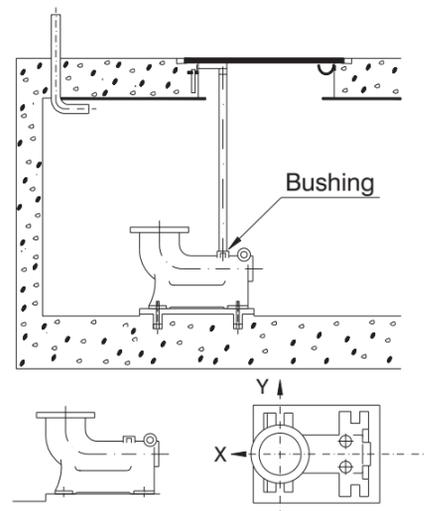

Fig 4
3.3 Discharge Elbow Installation (Fig. 4)
Support the guide pipe with bushings on discharge elbow and the guide pipe holder. If the guide pipe requires a length exceeding 5.5 m, an extension or intermediate support may become necessary, in which case we are available for consultation. When installing the discharge elbow, the guide pipe must be vertical (with a tolerance of 1 mm or less per 1 m), using a plum bob. If it is not vertical, it may become impossible to lift pump. Discharge elbow level should be within 0.1 mm per 1 m, both in the “X” and “Y” directions shown in Fig. 4. It is recommended practice that pipe installation be carried out with the discharge elbow covered to protect against entry of concrete and mortar during the work.